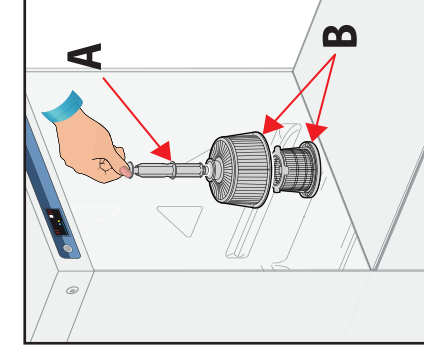

FIG. 2
2. Leave the machine switched on. Open the door and remove the OVERFLOW PIPE (A) Fig. 2
DO NOT REMOVE THE GREY PLASTIC FILTERS (B) FIG. 2. THESE PREVENT SCRAPS OF FOOD GOING DOWN INTO THE DRAIN PUMP. Blocked drain pumps are not covered by warranty
3. Press and hold the DRAIN PUMP button (3) for 1 second
5. Remove grey plastic PUMP FILTER (B) Fig. 2 and wash under running water and refit the filter and OVERFLOW PIPE (A) Fig. 2